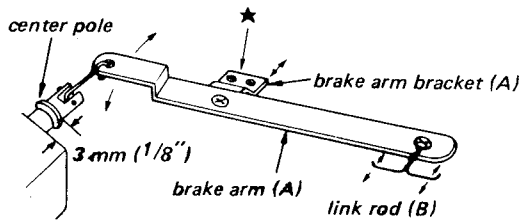

Fig. 5-1-9. Brake torque adjustment (3)
10. Check to see that the center pole of the solenoid should be pulled out from the solenoid by approx. 3 mm (1/8") in STOP mode as shown in Fig. 5-1-9. If it is not, adjust the position of the brake arm bracket A marked with \star .